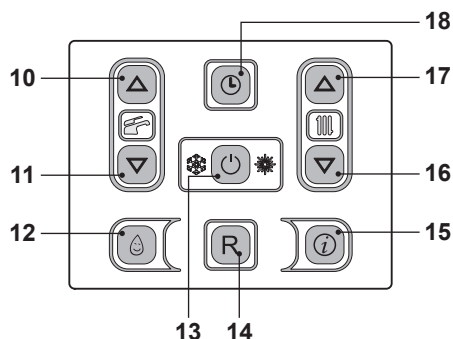
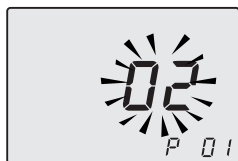

Fig. 9.3
Fig. 9.4
- Enter in "programming mode" by sequentially pressing keys 13 - 16 - 17 (Fig. 9.3) for 10 seconds until the letters **P01** are displayed on the LCD display, indicating that "parameter 01" (Fig. 9.4) has been activated.
- By pressing key 13 (Fig. 9.4) confirmation of the inserted value is obtained.
- Press keys 16 or 17 (Fig. 9.4) to exit without changing the value.